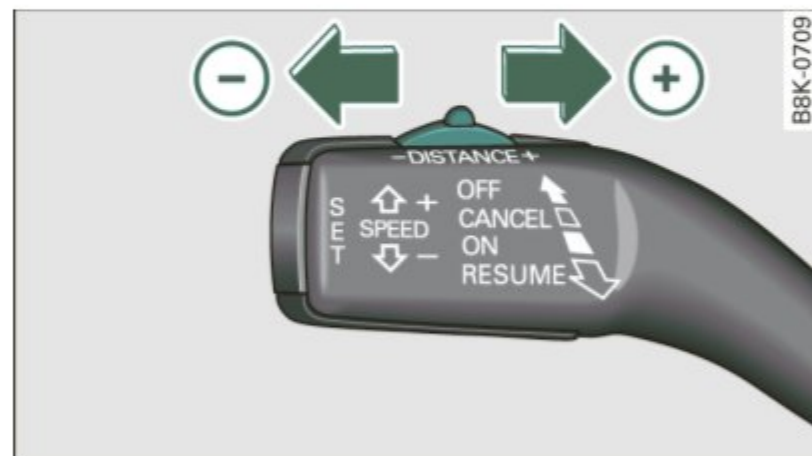

Fig. 127 Control lever: Setting distance
- Push the slider switch **once** to the right (+) or to the left (-) ⇒ fig. 127. The distance currently set is shown for 3 seconds in the instrument cluster display.